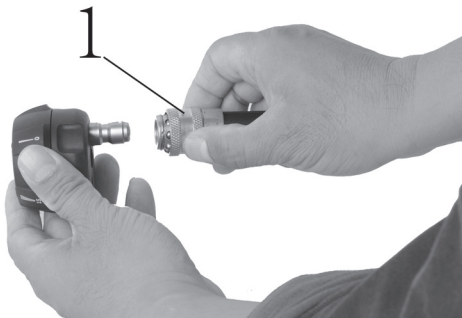

FIG. 8
4. Pull on the nozzle to ensure it is locked into the quick connect nozzle coupler on the wand before use (Fig. 8).